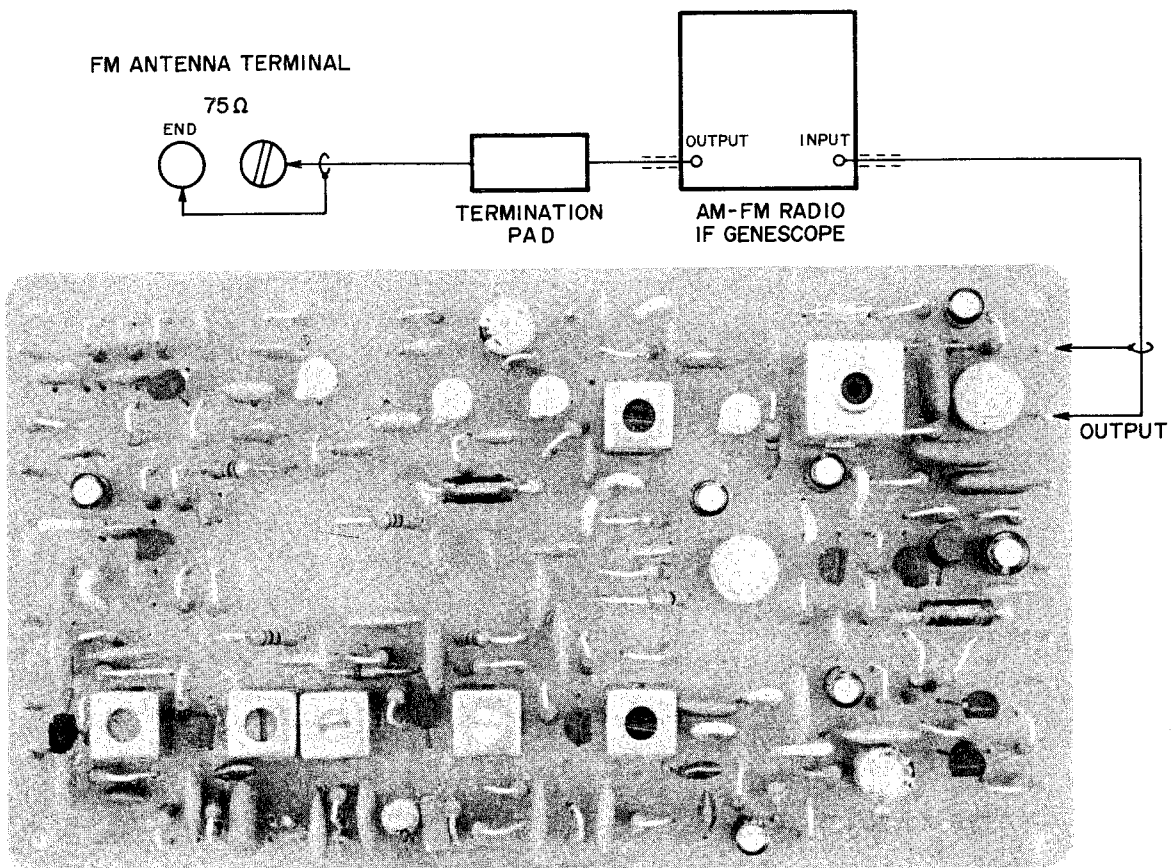

Fig. 7 INSTRUMENT CONNECTIONS
- 1) Connect the GENESCO lead wires to the 75Ω FM ANTENNA TERMINALS of the Receiver as well as to the FM IF Amp. P.C. Board output as shown in Fig. 7.